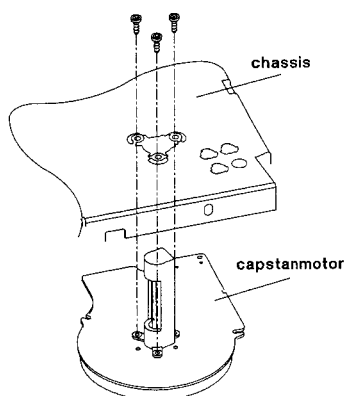

Fig. 12
- Remove the belt pos. 126.
- Remove the 3 screws (fig. 12).
- Die 3 Schrauben entfernen (Abb. 12).